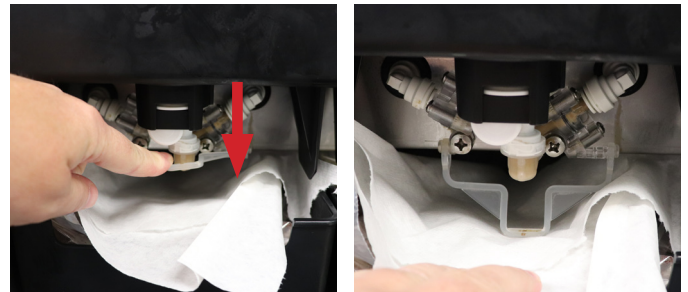

FIGURE 1 - Remove Product and Bin
1. Remove empty/expired product bag and bin from unit. (See Figure 1)